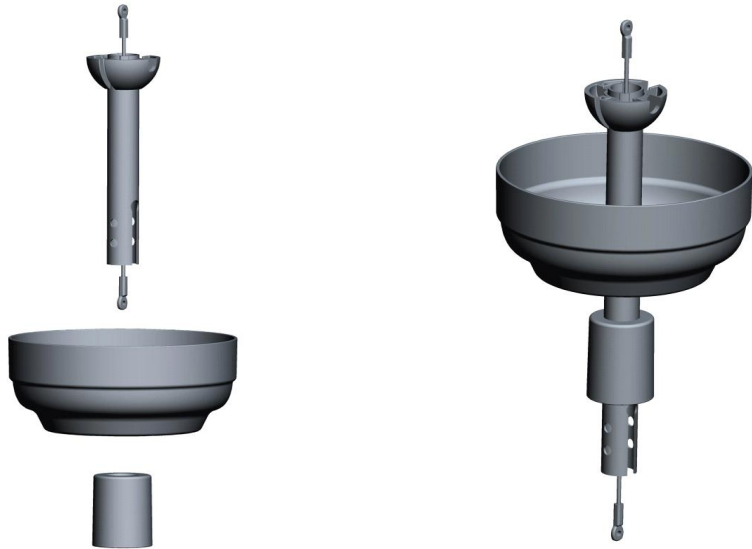

Fig 5.1
5.1 Assemble downrod as pictured in Fig 5.1. Insert the downrod through the canopy and wiring cover.